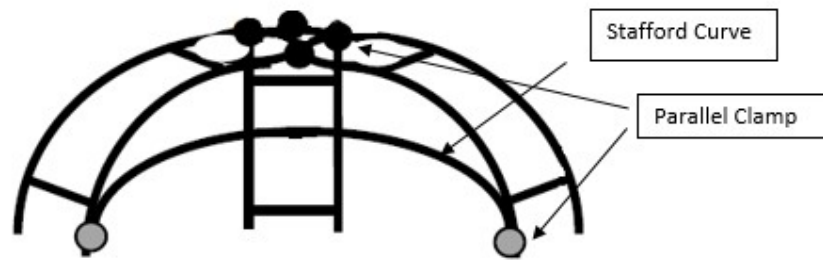

Figure 4: Positioning of the Stafford Curves
- TEMPORARILY attach, using Parallel Clamps, the Stafford Curves in the gaps between the Top Curves. The Stafford Curve should be positioned in below the spacer bar on the Top Curve as illustrated in Figure 4.